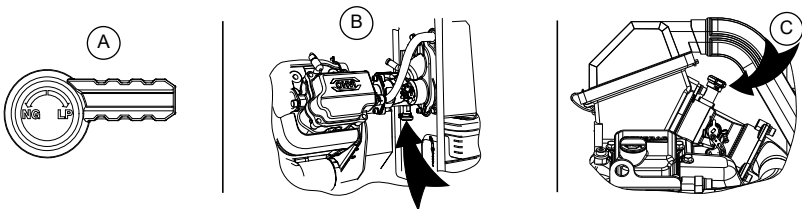

Figure 5-1. Fuel Conversion Knob Locations
See Figure 5-1 for fuel conversion knob (A) locations. Orange fuel conversion knob is located beneath fuel mixer on 10 kW units (B) and above fuel mixer on 14 kW–26 kW units (C).